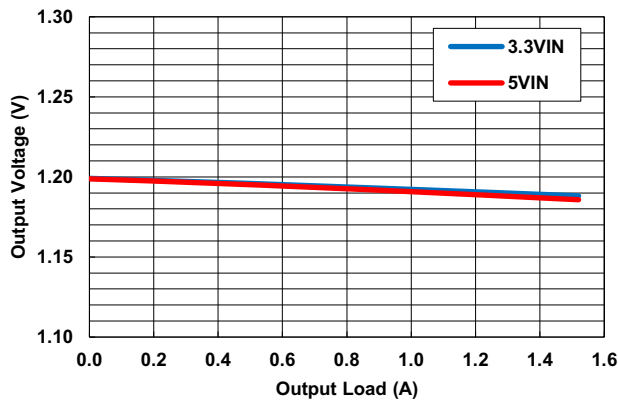

Figure 16.  $V_{OUT}$  Regulation vs Load,  $V_{OUT2} = 1.2\text{V}$
- Not tested in production. Characterized using evaluation board. See load regulation diagrams (Figures 16 through 19). +105°C  $T_A$  represents near worst case operating point.